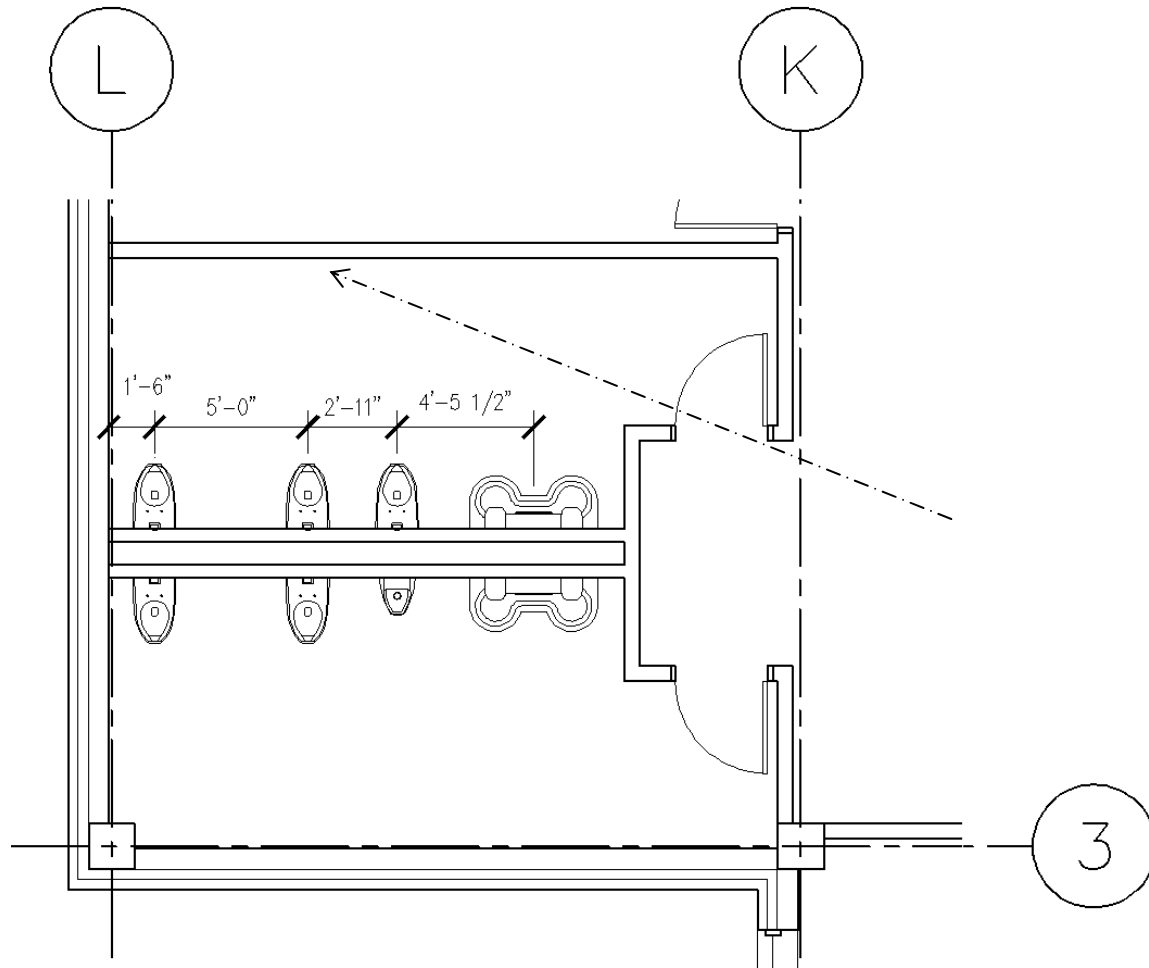

FIGURE 4-1.8 Place the fixtures shown; dashed line shows sightline
16. Insert the plumbing fixtures as shown in Figure 4-1.8, *plus*:
Sight-lines are typically explored by drawing a line from the adjacent hallway (or space), through the door opening, into the toilet room. Looking at Figure 4-1.8 you can see the sight-lines are quite acceptable. As previously mentioned this design solution takes up a fair amount of floor space but is necessary.